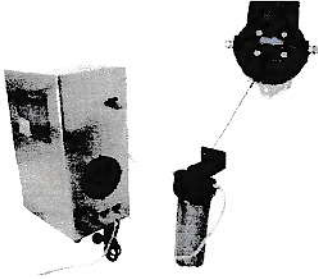

Fig. 10 Connection of silica gel drying tank
- ① Condition permitting, silica gel drying tank should be suspended as shown in Fig.10; if not, it should be installed on ozone generator ($\frac{1}{4}$ " joint with screw nut should be replaced by $\frac{1}{4}$ " two-end male straight joint)